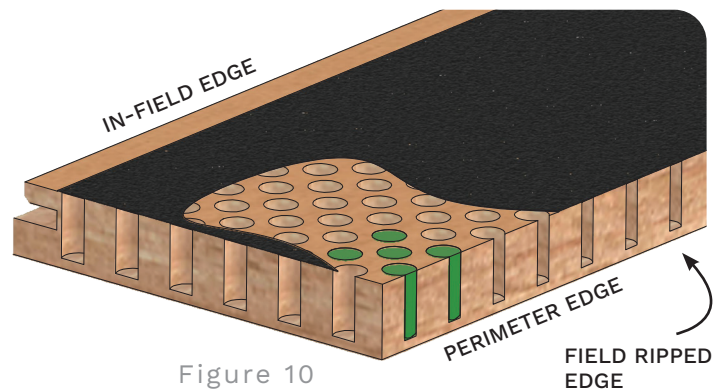

Figure 10
- Measure the member and cut to length if needed. Trim to width may be required (see Figure 10).